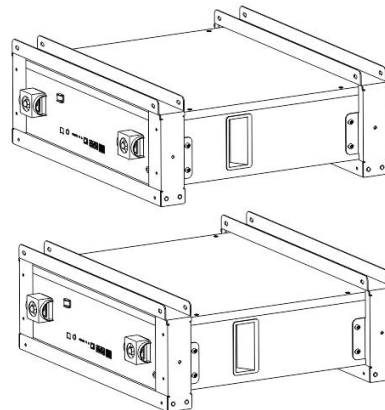

Figure 3-5
3. Install another module as the same method, don't tighten the screw first, put it on top of the first battery, as shown in Figure3-5.